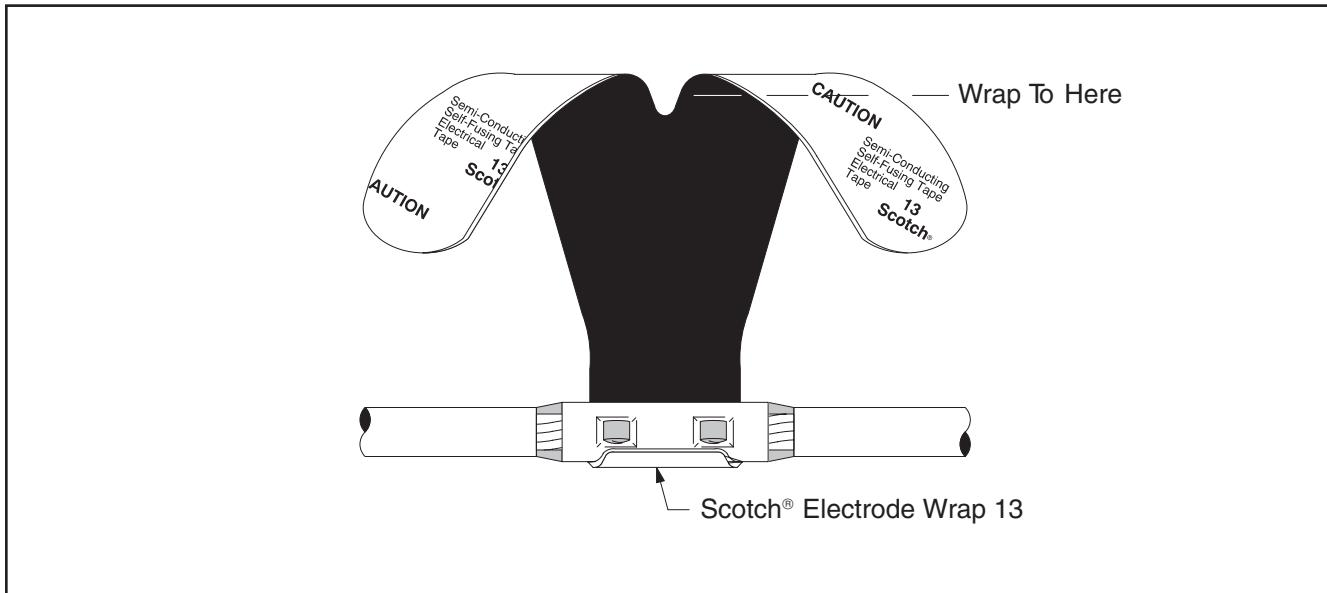

Figure 9
- a. Remove liner from Scotch® Electrode Wrap 13. Center Electrode Wrap (narrow end) over connector. Wrap around connector with sufficient tension to eliminate gapping and wrinkling. Continue wrapping until Electrode Wrap divides into two legs (Figure 9).